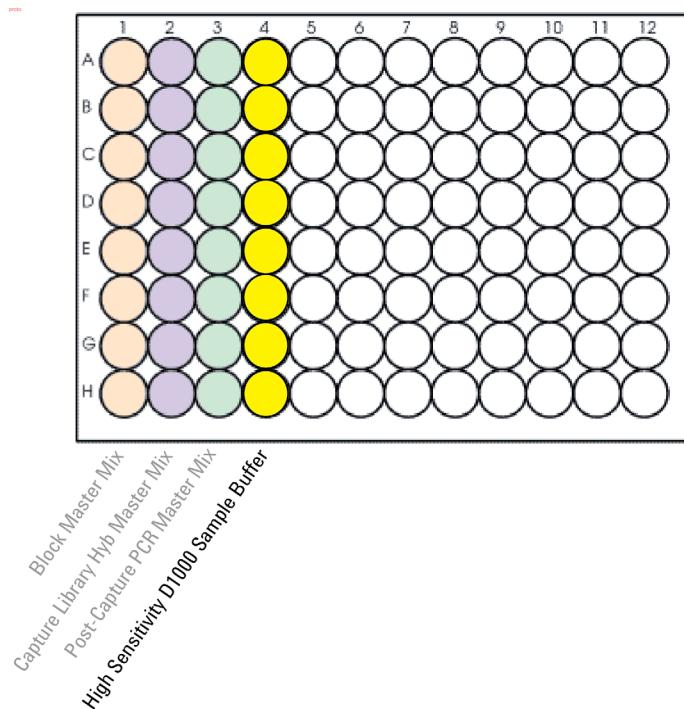

Figure 15 Configuration of the source plate for protocol 12 TS_HighSensitivity_D1000. Columns 1–3 were used to dispense master mixes during previous protocols.
- 4 Using the same master mix source plate that was used for the **10 Post-CapPCR_XT_HS2_ILM** protocol run, prepare the Sample Buffer source plate at room temperature. Add the volume of High Sensitivity D1000 Sample Buffer indicated in Table 75 to each well of column 4 of the plate. The final configuration of the sample buffer source plate is shown in Figure 15.